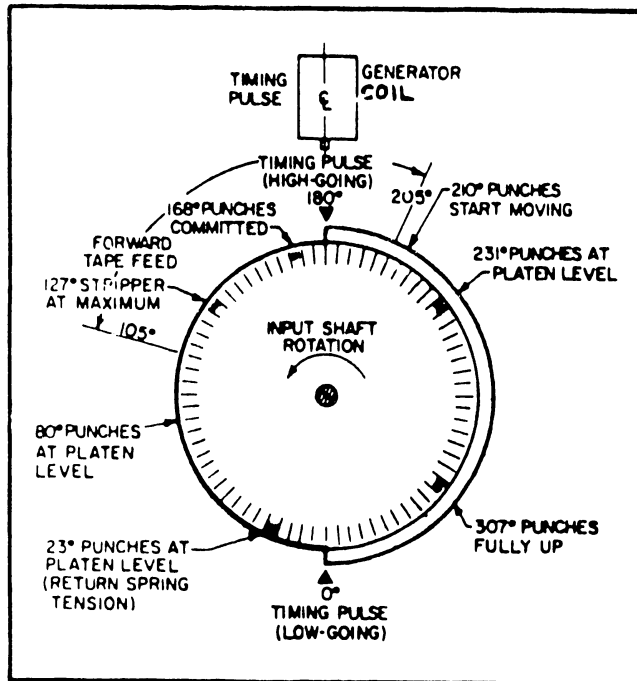

Figure 3.1 Timing Chart, Punch
chart of Figure 3.1 and timing diagram of Figure 3.2, a punch should reach and be level with the upper surface of the lower die plate at 231 degrees upstroke and 23 degrees downstroke. Punch travel from this point, which is the same as that of the top surface of the platen, into the upper die plate and back should encompass 152 degrees of input shaft rotation. Therefore, after 76 degrees, a punch should be at its maximum height, and the timing dial should indicate 307 degrees. The following equation shows a correct timing disc setting:
6. Repeat step 1 through 3. Points of actual measurement should coincide with those in Figures 3.1 and 3.2 if the adjustment was made correctly.